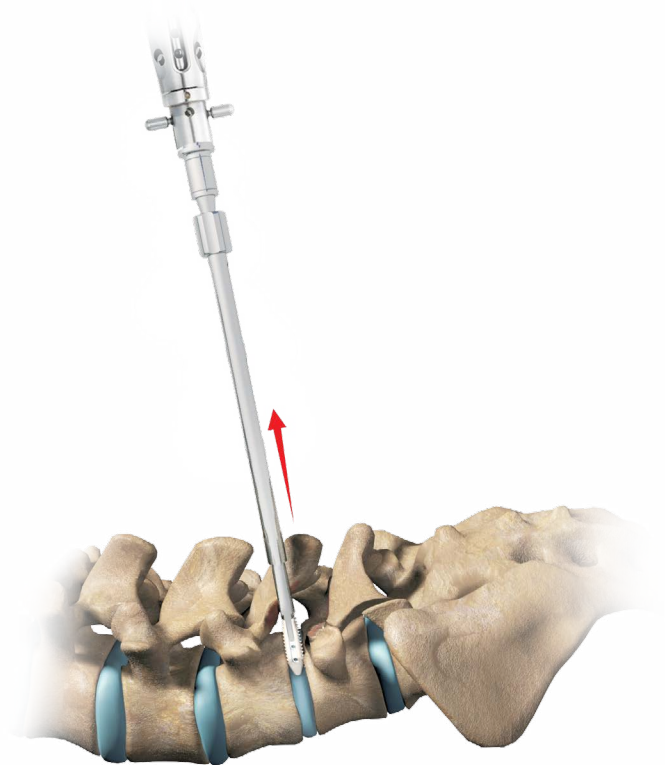

Fig. 12b
5. Pull up on the sleeve of the Slap Hammer to remove the spacer. (**Fig. 12b**)